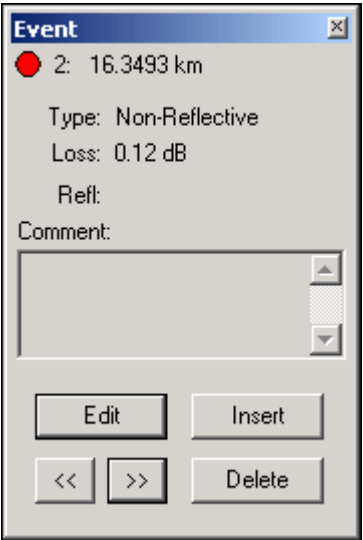

Figure 3-7: Event Window
- Double-click the *left* mouse button on an event mark on the graph to display the event in the Event window (see Figure 3-7).